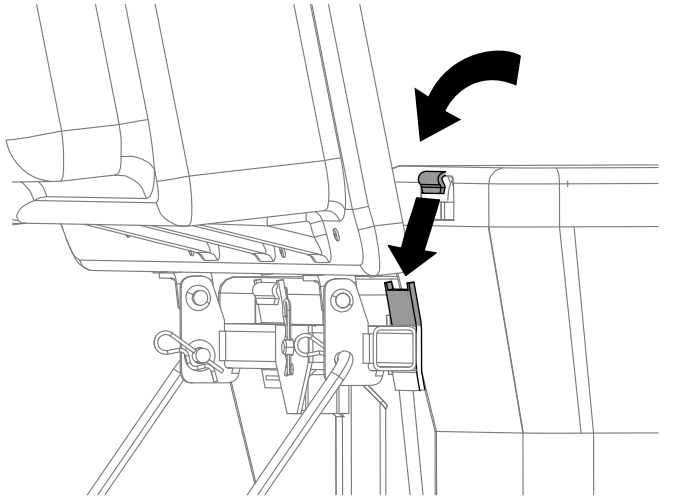

Figure 22
- Lift the bagger top and install the bags assembled in 9 Assembling the Grass Bags (page 15) by sliding the bag frame hooks onto the retaining brackets (Figure 22).